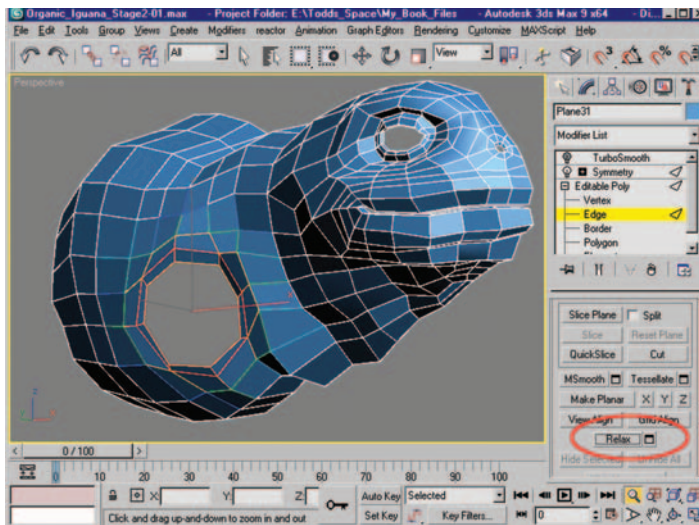

Figure 9.46 Edge selection after performing Relax with Soft Selection active.
7. With the selection still active, use Relax once with the default values to soften the area (Figure 9.46).